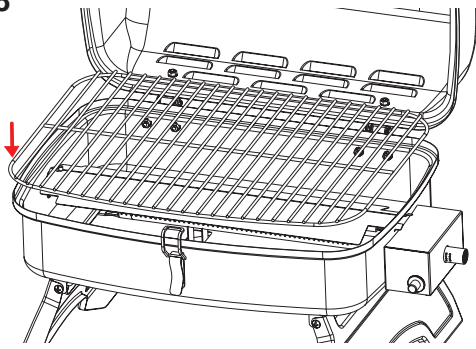

Fig. 8
*Procedure:* Place the Cooking Grid into the firebox as shown in Fig. 8.